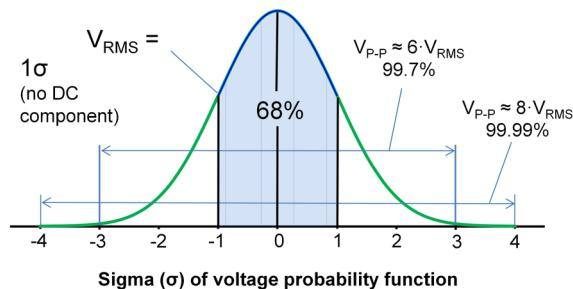

Figure 58: Gaussian noise spikes outside the ± 3 -times range are rare.
Resistor noise is also Gaussian, a description of its amplitude distribution, a probability density function. It is Gaussian because it was created by the summation of a gazillion little random events. The central limit theorem explains how this noise becomes Gaussian. The root-mean-square (RMS) voltage of alternating current (AC) noise is equal to $\pm 1 \sigma$ of the amplitude distribution (Figure 58). For 1-V RMS noise, there is a 68 percent ($\pm 1\sigma$) probability that the instantaneous voltage will be within a ± 1 -V range. A common misconception is to relate or equate white and Gaussian, but they are unrelated. Filtered resistor noise, for example, is not white but remains Gaussian. Binary noise is definitely not Gaussian, but it can be white. Resistor noise is white and Gaussian.